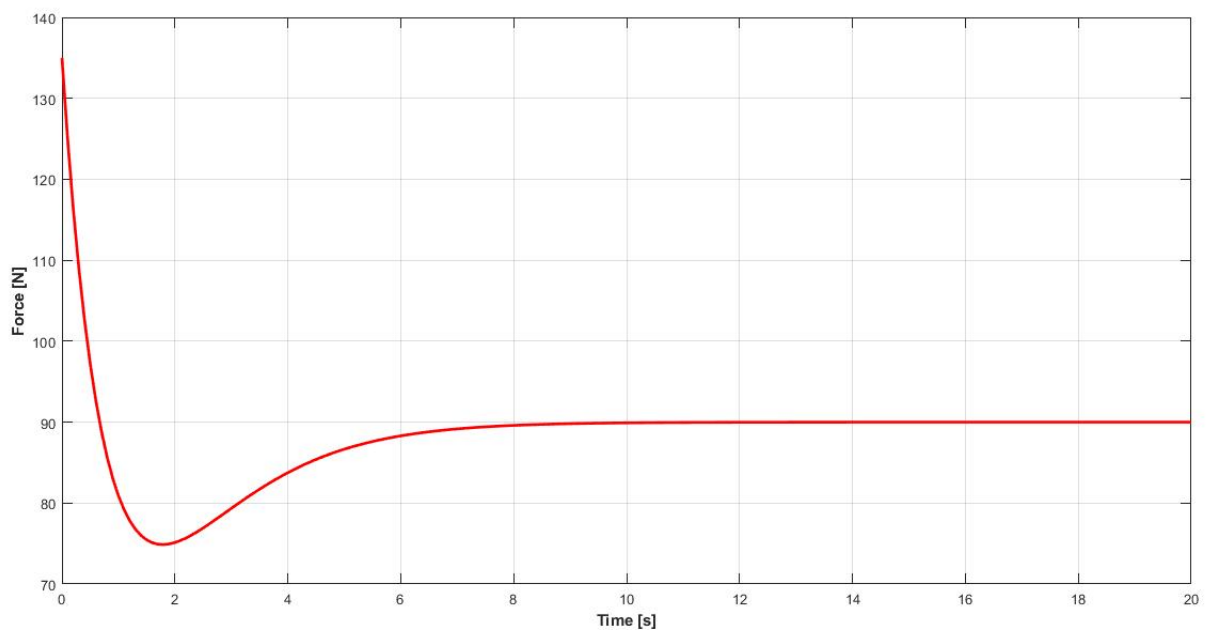

Figure 3: Design I: Force
8. This is because the motor force exceeds  $115N$  as shown in Figure 3 and hence the motor will fail. (1 pts.)